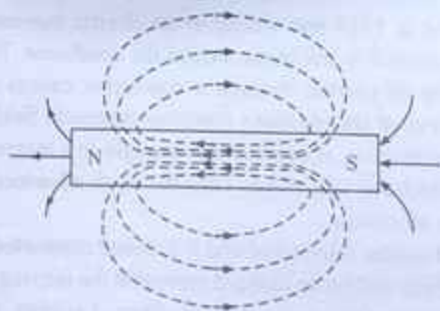

Fig. 6.1 Lines of force due to a bar magnet
The magnetic field can be mapped with the help of a small compass needle into a series of imaginary lines, called *lines of magnetic flux* or *magnetic lines of forces*. At any point the needle settles so that its length is tangential to the lines of magnetic flux through that point. At that point the north-seeking end of the needle points in the direction of the field. The lines of force due to a bar magnet are shown in Fig. 6.1.
The lines of force are external to the magnet and they pass from north-pole through the field to the south-pole. But the lines within the magnetic material are called *lines of induction*. This is shown in Fig. 6.1.
If a bar of magnetic material, say iron, is placed in a uniform magnetic field, it is magnetized by induction as shown in Fig. 6.1. If it develops a polarity of m webers, then its own flux is m webers. As explained above the lines within the iron bar are known as *line for induction* and those outside it are known as *lines of force*. The lines of induction per unit area is known as *induction density* (B)